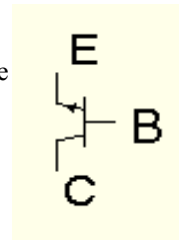

Figure 4.2
- A transistor is like an electrical switch (Figure 4.2). When the base (B) is *high*, the "switch" is essentially closed and completes the circuit between the collector (C) and the emitter (E). When the base is *low*, the "switch" is open and the current cannot flow through the transistor.